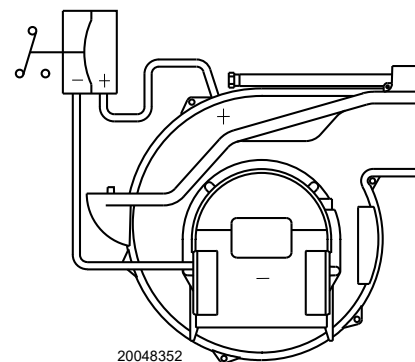

Fig. 50
- Adjust the air pressure switch to the zero position of the scale (Fig. 50, page 38).
The air pressure switch is connected in differential (Fig. 50) and is activated by both the negative pressure of the air intake and the air pressure from the fan.